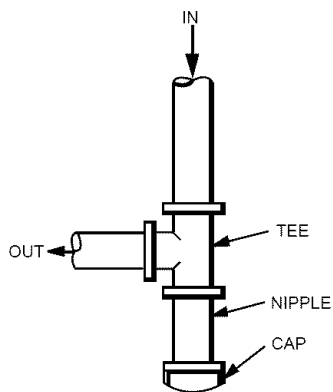

Fig. 12—Sediment Trap
4. Install sediment trap in riser leading to heating section per Fig. 12. This drip leg functions as a trap for dirt and condensate.